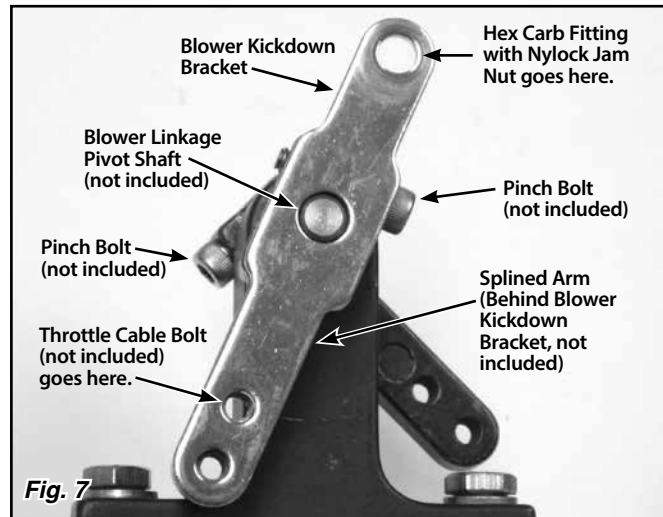

Fig. 7
Step 7: Install the blower kickdown bracket onto the splined arm on the blower throttle linkage, with the two holes at the bottom. The blower kickdown bracket is positioned by the blower linkage pivot shaft and attached using the throttle cable bolt. If the blower linkage pivot shaft does not protrude out far enough to align the blower kickdown bracket, it will be necessary to adjust the position of the splined arms on the pivot shaft by loosening the pinch bolts and repositioning parts as needed. **Fig. 7**